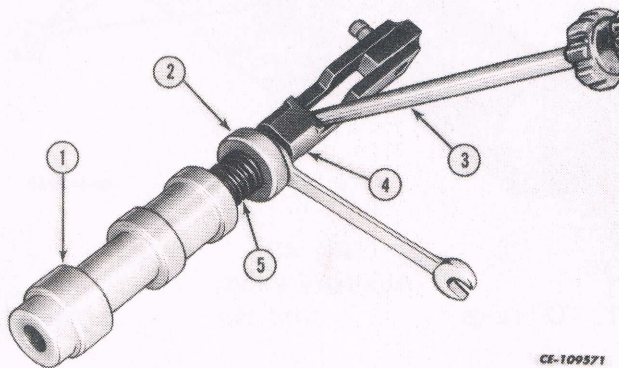

Fig. 39
f. Loosen the locknut and compress the return spring (5) enough to slide a wrench on the flattened portion of the actuator tube. Count and record the number of threads and remove the valve link (4). See Fig. 39.